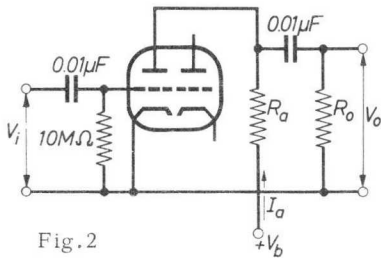

Fig. 2
A.F. amplifier Fig. 2 see page 9 Input source resistance = 100 Ω